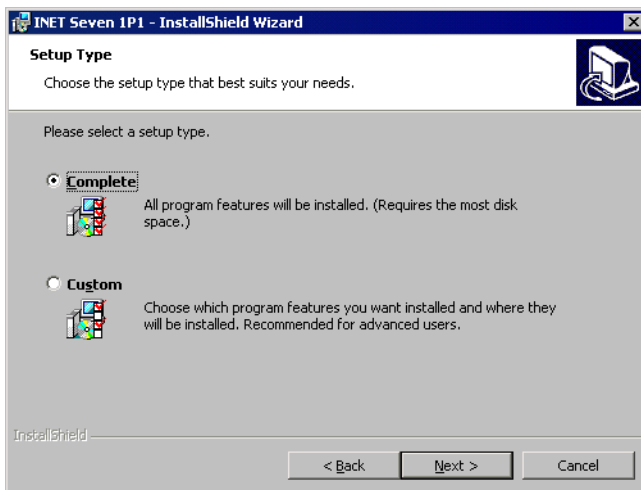

Figure 2-12. Setup Type Dialog Box
15. Setup displays the Data File Root Folder screen (see Figure 2-12). Use this screen to choose a storage location for TAC I/NET Seven's data files.
16. The Setup Type screen, shown in Figure 2-12, provides two installation options.